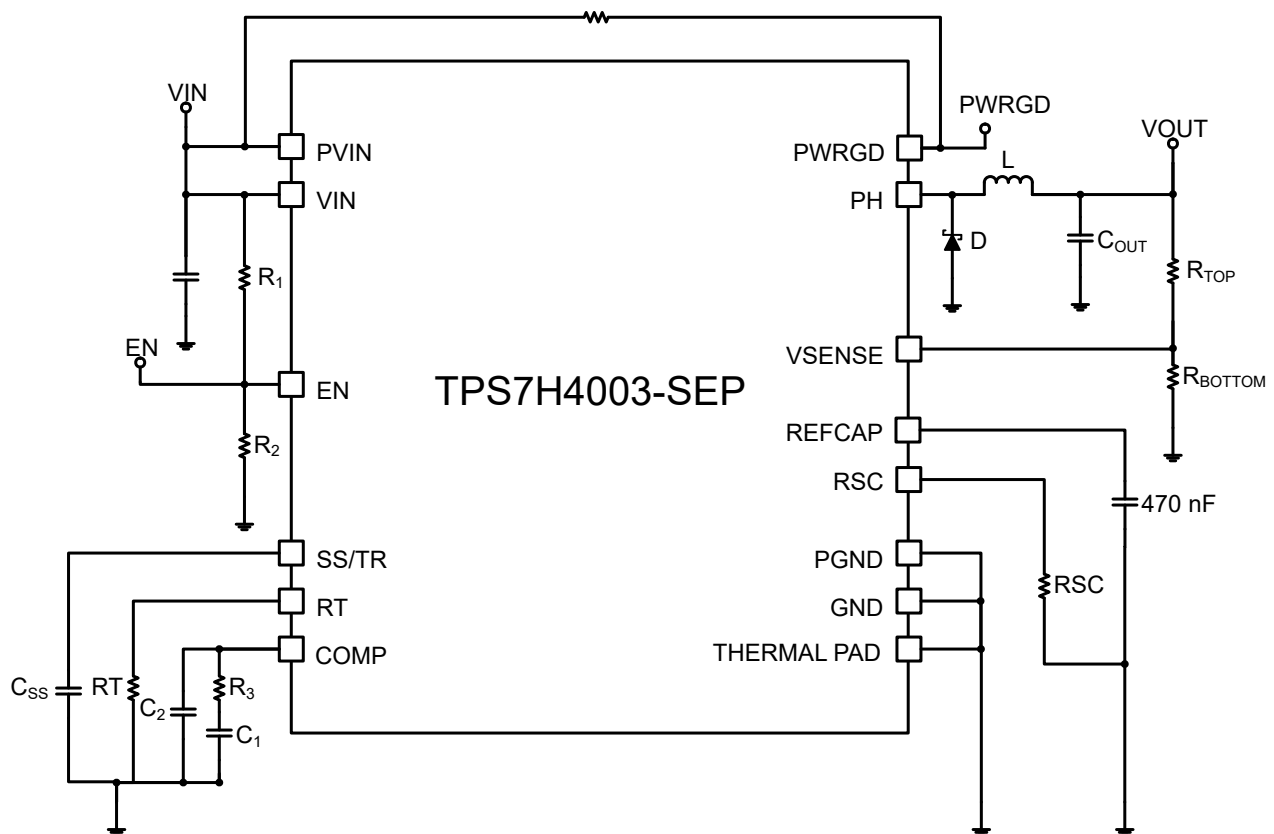

图 8-1. Typical Application Schematic
**Figure 8-1** shows a Schottky diode between the phase node pin (PH) and GND of the TPS7H4003-SEP. This external diode is in parallel with the internal low-side power FET of the device and typically has superior reverse recovery characteristics when compared to the body diode of the internal low-side FET. This improved reverse recovery provides two key benefits. The first benefit is an better overall efficiency for the converter due to lower losses associated with the diode reverse recovery. The second key advantage is that the parasitic-induced noise associated with the reverse recovery current pulse (as detailed in Figure 5 of Power Loss Calculation With Common Source Inductance Consideration for Synchronous Buck Converters) is drastically reduced. In the absence of the Schottky diode, this noise can manifest itself on the power ground plane internal to the TPS7H4003-SEP. If significant enough, the noise can reduce the dynamic range of the error amplifier and result in higher output voltage ripple. For this reason, it is highly recommended to use the external Schottky diode in the converter design. At the least, a PCB footprint for the diode should be included in the PCB design phase in case it is needed to achieve the system requirements.